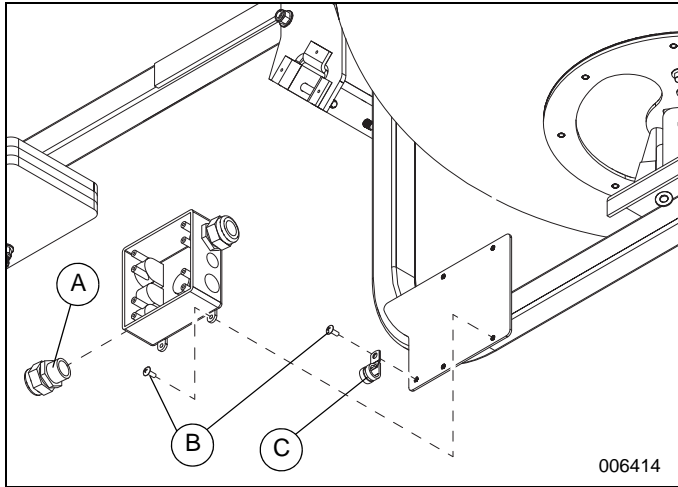

Figure 12. Junction Box Installation
8. See **Figure 12**. Install strain relief to junction box. Install coil-cord to tubing clamp, then install tubing clamp as shown.
8. See Figure 12. Install strain relief to junction box. Install coil-cord to tubing clamp, then install tubing clamp as shown.